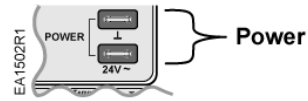

Figure 5. Connecting to Power Supply Source.
4. Apply power to the controller (see Figure 5).